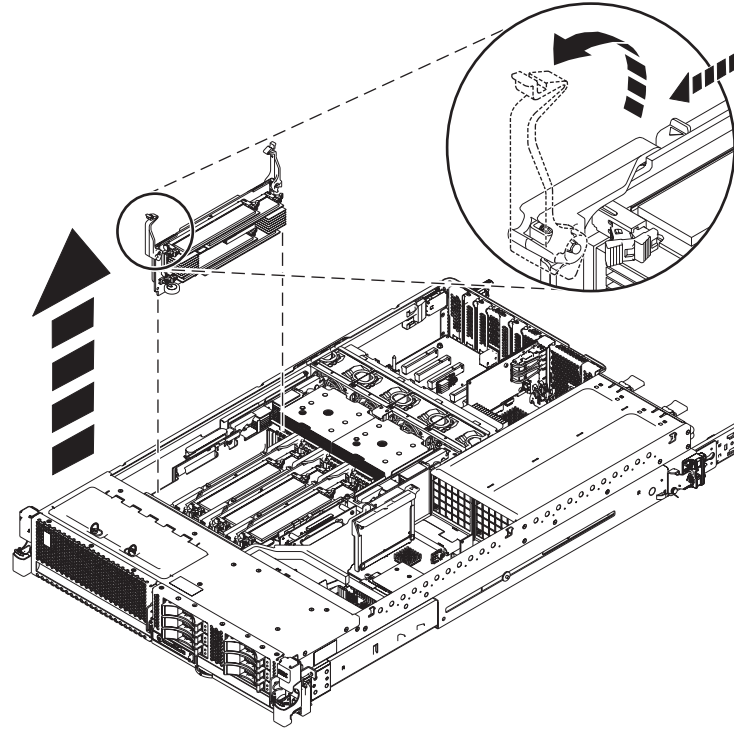

Figure 4. Removing a memory module riser
9. If you are adding memory to an existing riser, remove the memory riser from the system by pulling the locking tabs into the open position and lifting the memory riser out of the system, see Figure 4 on page 11.